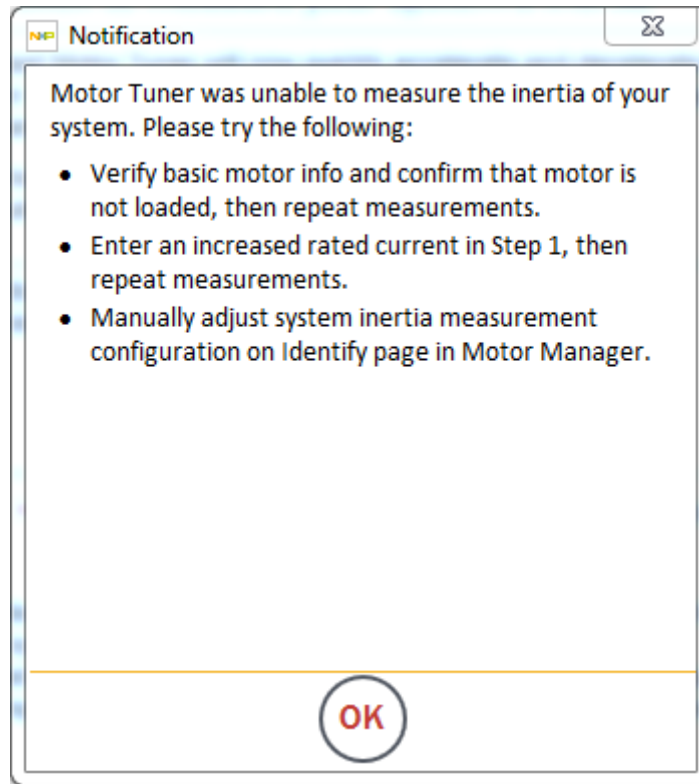

Figure 202. Failed inertia measurement
- Only after Motor Tuner has exhausted its adaptive configuration options does it declare an inability to complete the measurement (Figure 202).